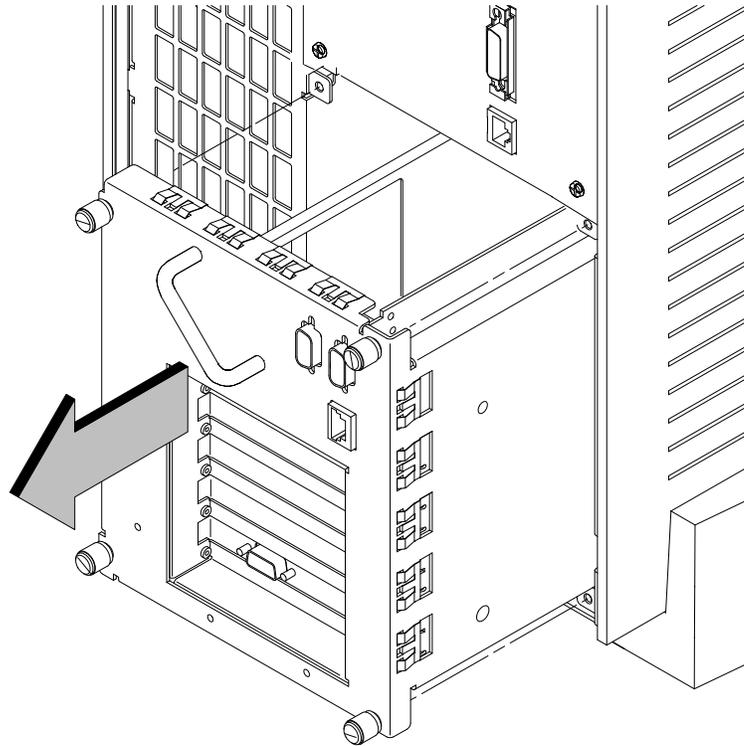

Figure B-33. Removing the EISA Assembly
1. Working from the rear of the workstation, unscrew the four captive screws and pull the EISA Assembly straight out using the handle. See Figure B-33.